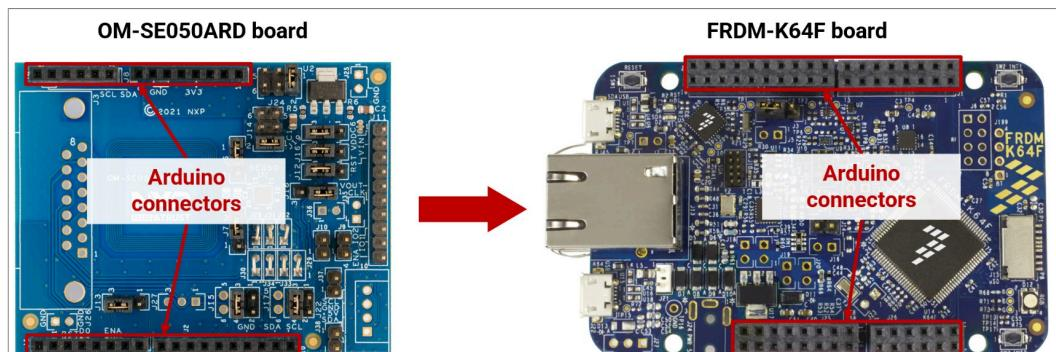

**Figure 1.** Jumper configuration for FRDM-K64F
The OM-SE050ARD-E boards have jumpers that allow you to configure the I2C interface of EdgeLock SE05x secure elements via the Arduino header. Configure the jumper settings as shown in Figure 1 to enable this option.
**Note:** Refer to Figure 1 for OM-SE05xARD jumper configuration.